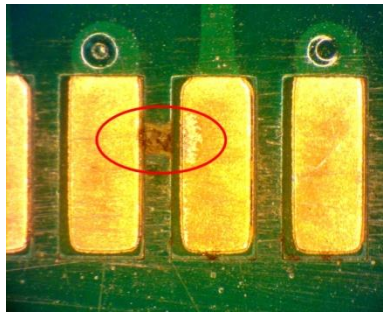

Figure 5
3. The evidence of the breakdown occurred between the pads shown in Figure 5 in the red oval, leaving the carbon path shown.